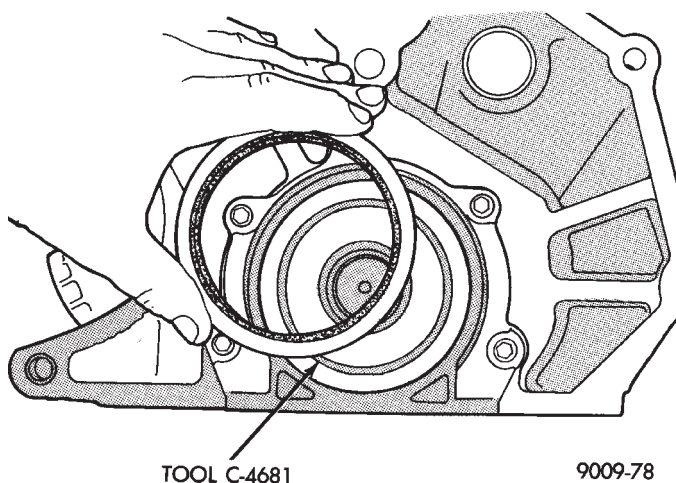

Fig. 82 Rear Crankshaft Oil Seal—Installation
(1) Place Special Seal Pilot Tool C-4681 on crankshaft (Fig. 82).
(2) Lightly coat seal O.D. with Loctite Stud and Bearing Mount or equivalent.
(3) Place seal over Special Seal Pilot Tool C-4681 and tap in place with a plastic hammer.